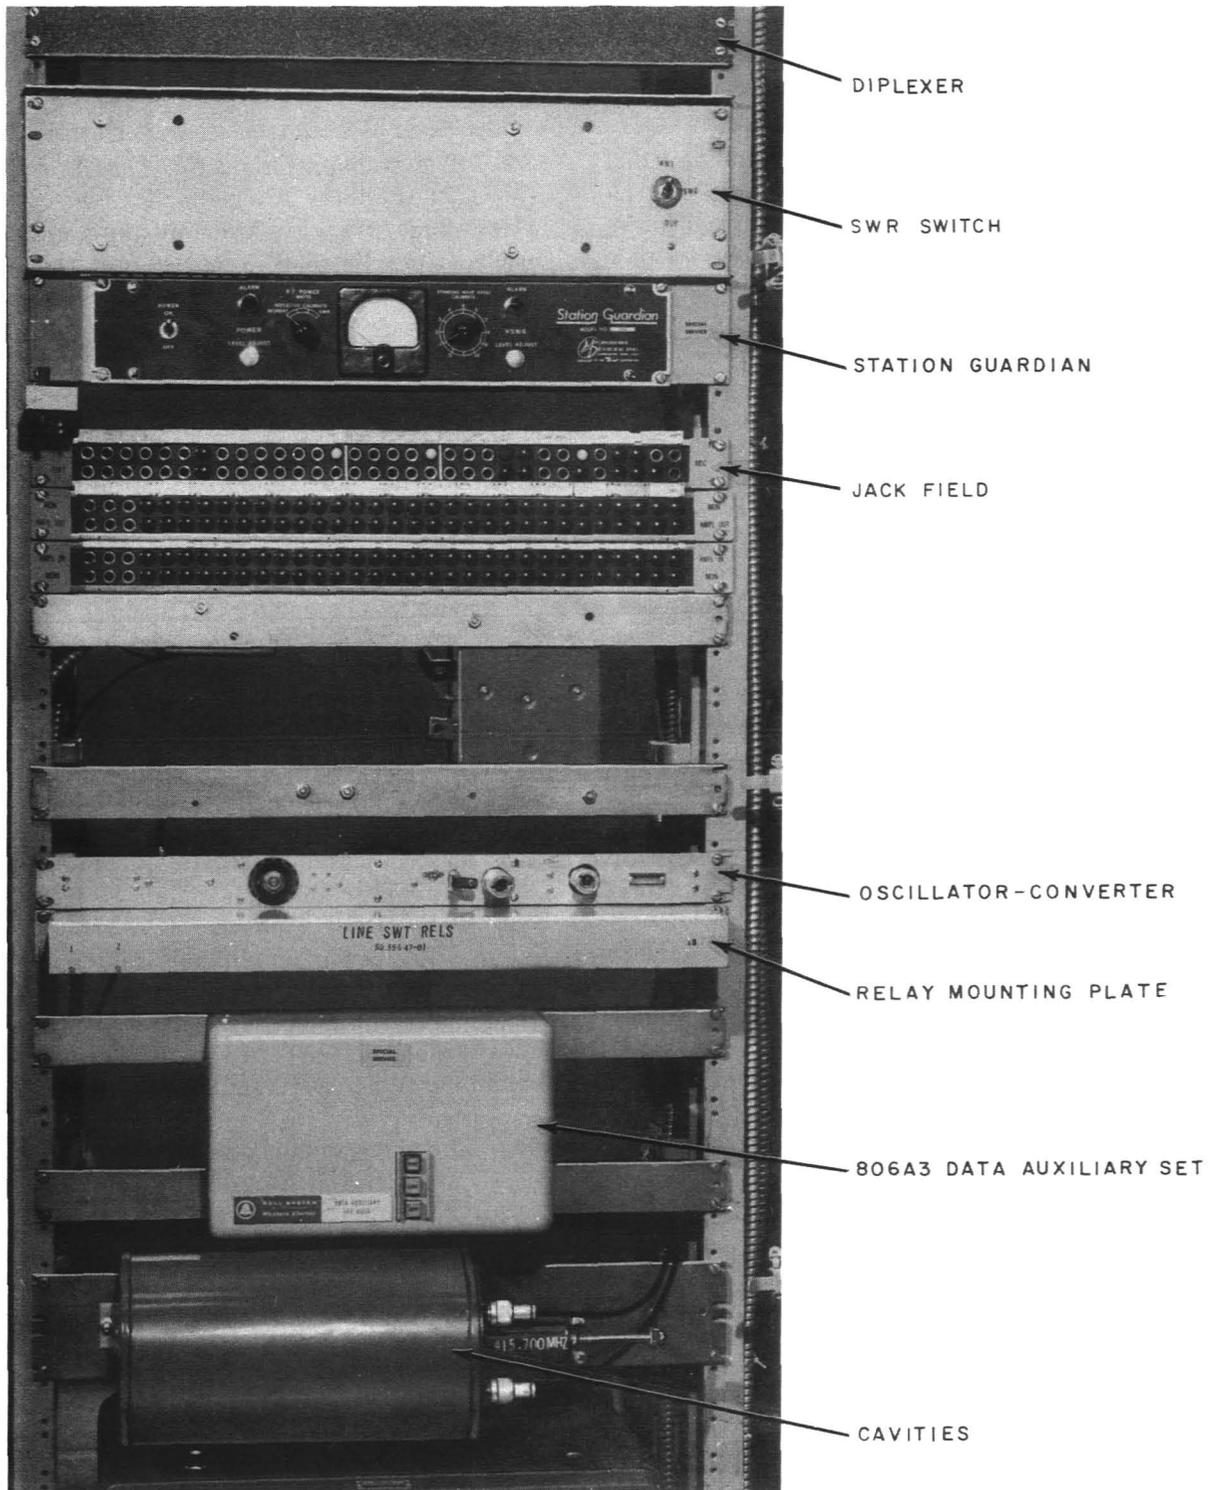

Fig. 3—Supplementary Bay—Front View
2.05 The auxiliary equipment rack provides the units shown in Fig. 3. The rack accommodates standard 23-inch panels. The ac safety switch, located at the middle of the rack, controls primary power to the GE station cabinet. The ac receptacles mounted on the auxiliary rack provide power for the Station Guardian unit, the loopback converter, the 806A3 data auxiliary set, and the optional 806A2 data auxiliary set.
3.72 The diplexer impedance is 50 ohms, the isolation between transmitting and receiving sections is 100 dB, and the insertion loss of each cavity is 0.15 dB. The six cavities, with interconnecting cables, are mounted on the rear of a 23-inch panel that is mounted near the top of the auxiliary bay (Fig. 3).